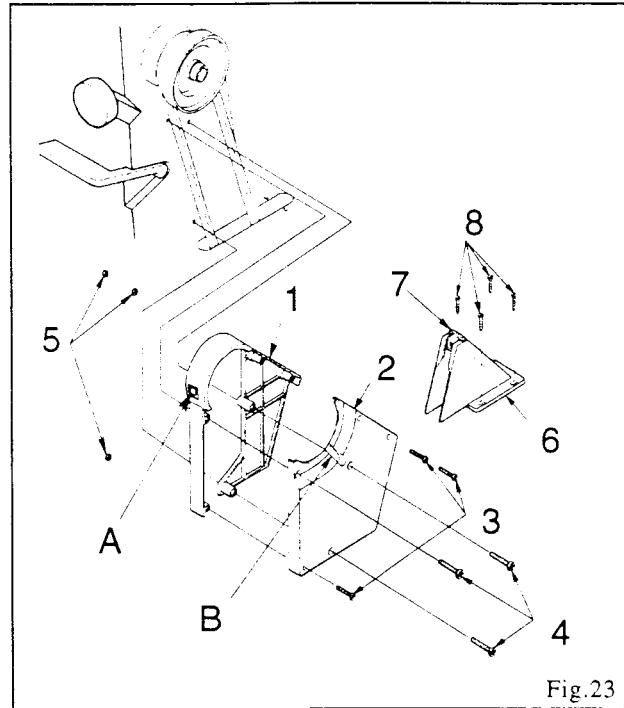

Fig.23
Fasten belt guards (1) and (2) to machine head with belt guard screws (3) and (4) and also with nuts (5) as shown in Fig. 23.